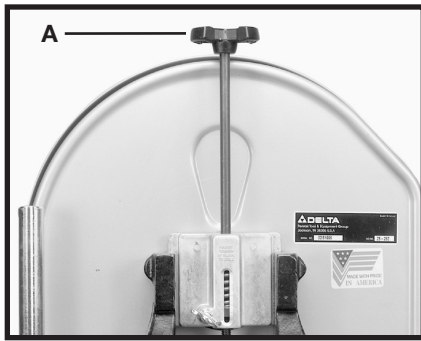
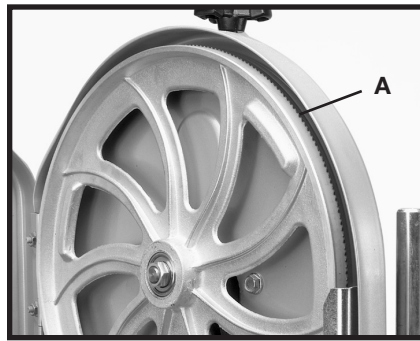
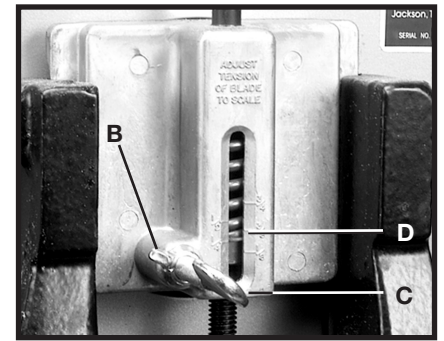

Fig. 23
Fig. 24
Fig. 25
A series of graduations is located on the back of the upper wheel slide bracket. These graduations indicate the proper tension for various widths of blades. With the blade on the wheels, turn the knob (A) Fig. 23 to raise or lower the wheel, until the red fiber washer (D) Fig. 25 is in line with the proper graduation for the size of the blade used.
After applying tension to the blade, rotate the wheels slowly forward by hand and observe the blade's movement. The blade (A) Fig. 24 should travel just to the front of the center of the upper tire. If the blade creeps toward the front edge, loosen the wing nut (B) Fig. 25, and tighten the thumb screw (C). This will draw the blade toward the center of the tire. If the blade creeps toward the back edge, turn the thumb screw in the opposite direction. Adjust the thumb screw (C) Fig. 25 only a fraction of a turn each time. **NEVER TRACK THE BLADE WHILE THE MACHINE IS RUNNING.** After the blade is tracking just to the front of the center of both tires, tighten the wing nut (B) Fig. 25. Adjust the Blade Guides and Bearings.